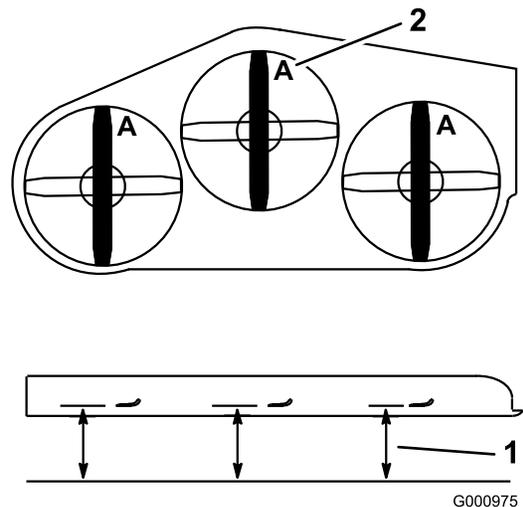

Figure 113
2. Measure from a level surface to the cutting edge, position A, of the blades (Figure 113).